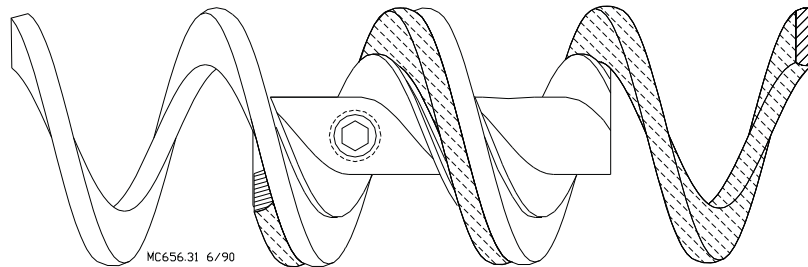

Figure 62. Auger Connector Installation
2. Untwist the remaining end of the auger 1-1/2 turns so when it is threaded onto the first end of the auger it will return to its relaxed position. Auger ends must be overlapped - **Not butted**, when threaded into the track of the auger connector, **see Figure 62**.